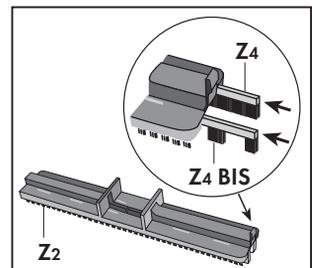

Fig. 17
- Bristled frame (Z2) combined with bristled inserts (Z4 and Z4 BIS) for the vacuum cleaner function (Fig. 17).